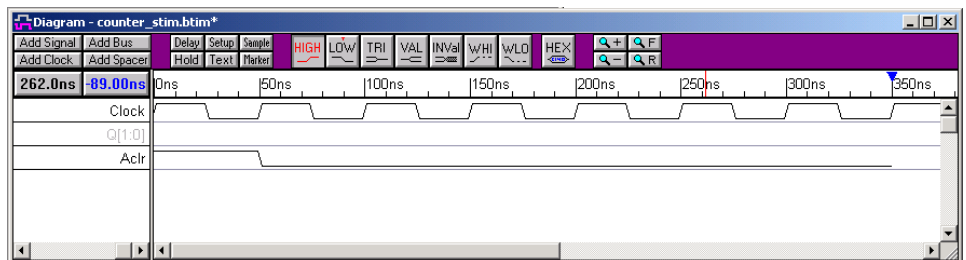

Figure 3-15. counter_stim.btim File with Clock and Aclr Signals
5. Click and drag in the **Aclr** signal to draw a low segment from 50 ns to 350 ns (Figure 3-15).